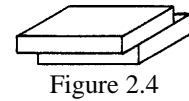

Figure 2.4
2. Position the metal so that the joint to be welded is in the overhead position. (See Figure 2.4.)